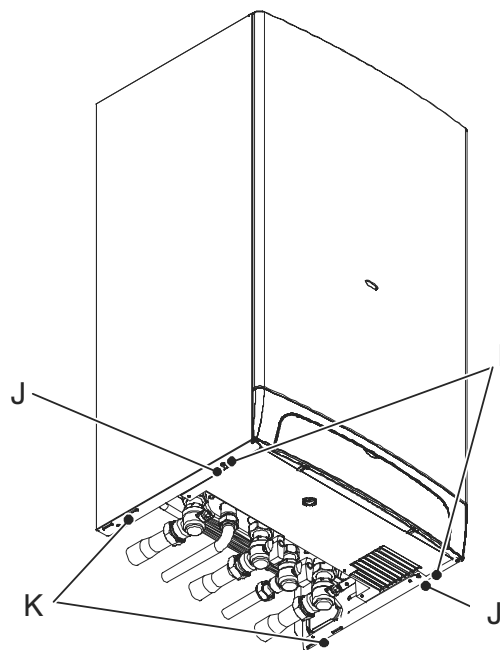

Fig. 6.8
- 2 Remove the screws I and J (Fig. 6.8).